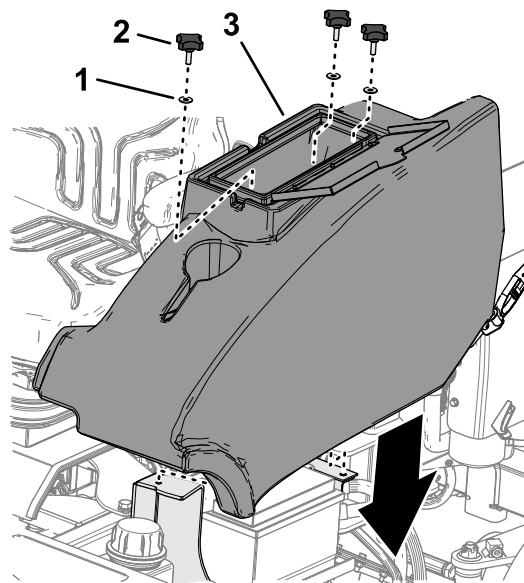

Figure 49
2. Assemble the storage compartment to the machine with the 3 knobs and 3 washers (Figure 49)